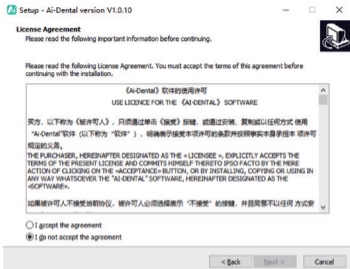

Figure 5
3.1.4 Read the software license agreement, agree to this agreement and click “I accept the agreement”, click Next to continue installation, disagree with this agreement and click “I do not accept the agreement” to exit the installation program, as shown in Figure 5.